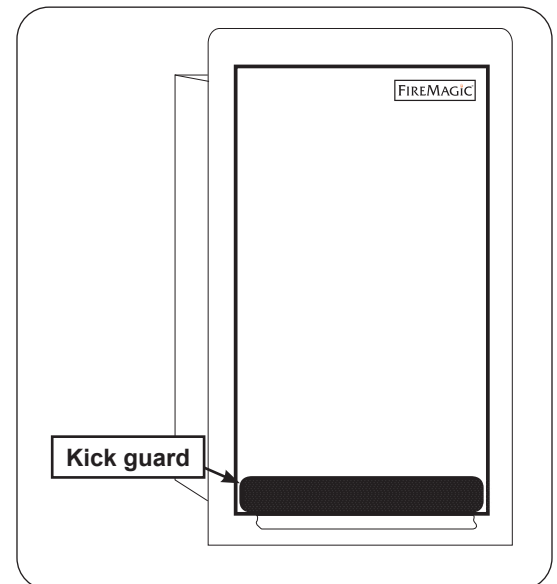

Fig. 3-2 Attach kick guard (if desired)
2. Peel off the backing from the kick guard and apply it to the bottom of the door (as shown Fig. 3-2).